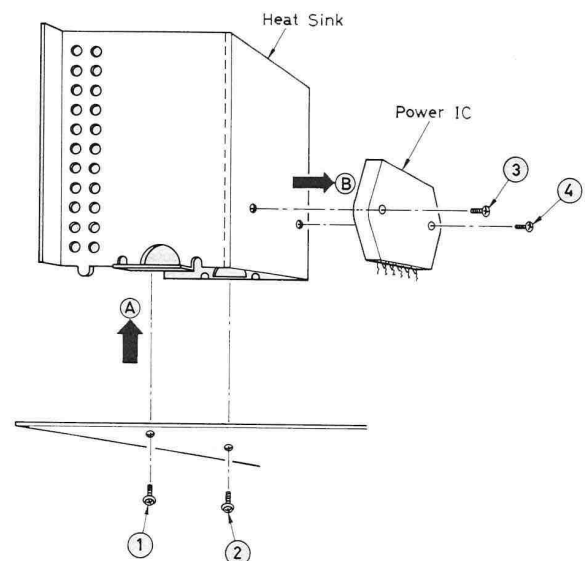

Fig. 4
3. Remove the 2 screws [①, ② in fig. 4] holding the heat sink.
4. Lift the heat-sink upward [fig. 4: → ①]
5. Remove the 2 screws [③, ④ in fig. 4] holding the power IC on the heat-sink. The power IC can be removed. [fig. 4: → ②]